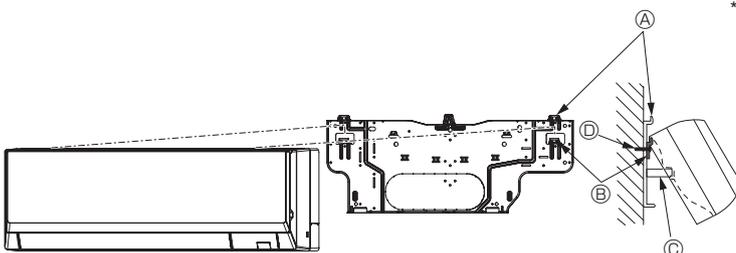

Fig. 3-12
- When the indoor unit cannot be hung and lifted up with the regular hook (the dimension of 2.1. ⓐ (the clearance between the ceiling and the unit) is 75 mm, 2-15/16 in. or less), hang the unit on the lower hook for left piping. (Fig. 3-12)
(Fig. 3-12)